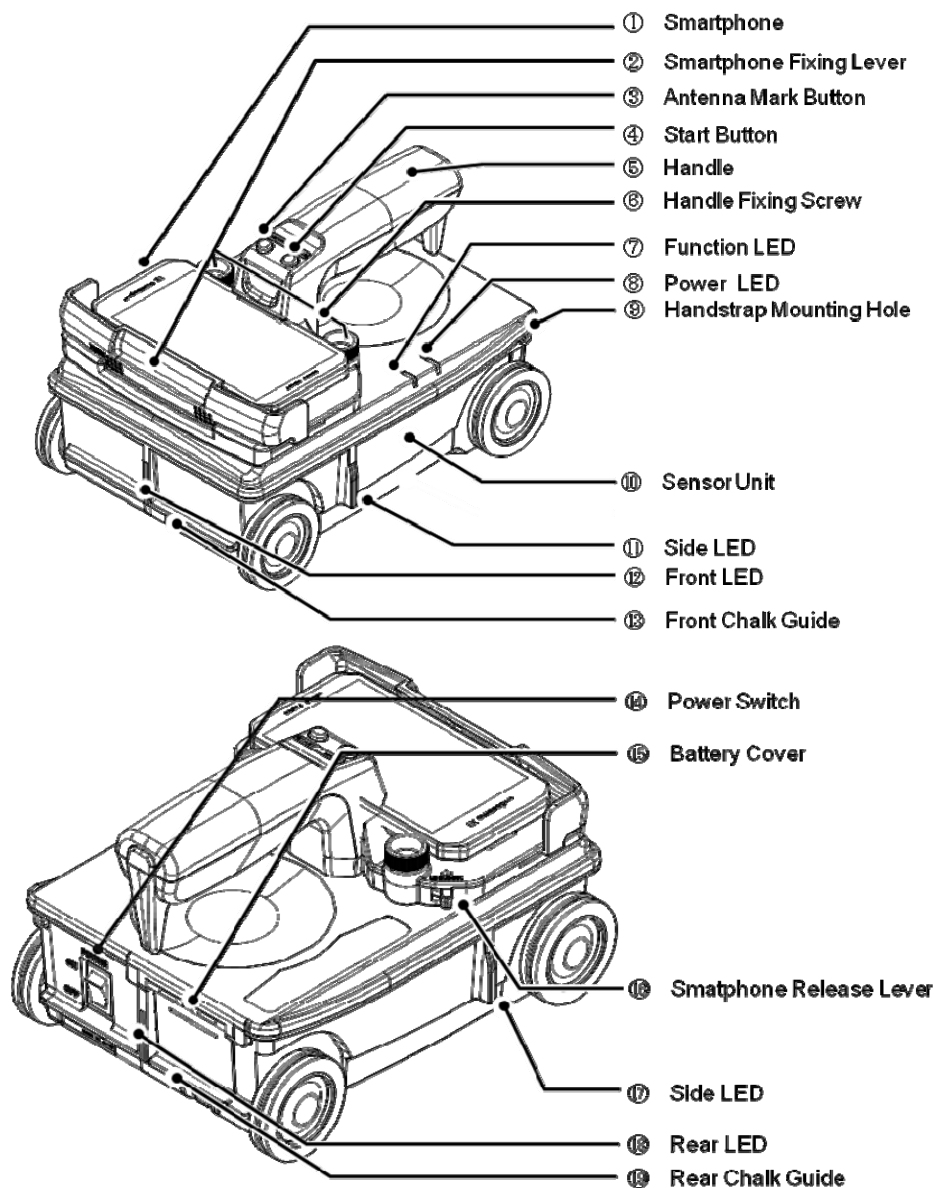

Figure 1-2 Name and function of each part
- (1) Make sure that the power switch (Figure 1-2 ⑭) is in **OFF** position.
- (2) Open the battery cover by pushing up the locking tab located on the lower part of the battery cover (Figure 1-2 ⑮).
- (3) Insert the battery pack pin side first until it locks into place. (You should hear a “click” when it locks into place.) Close the battery cover.